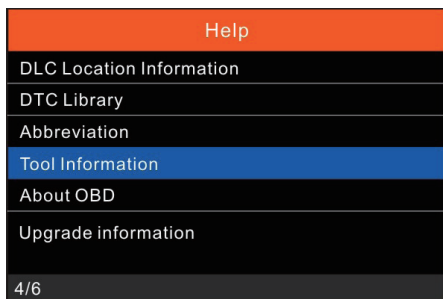

Figure 7-4
7. Select [Tool Information], press [OK]. (Figure 7-4)